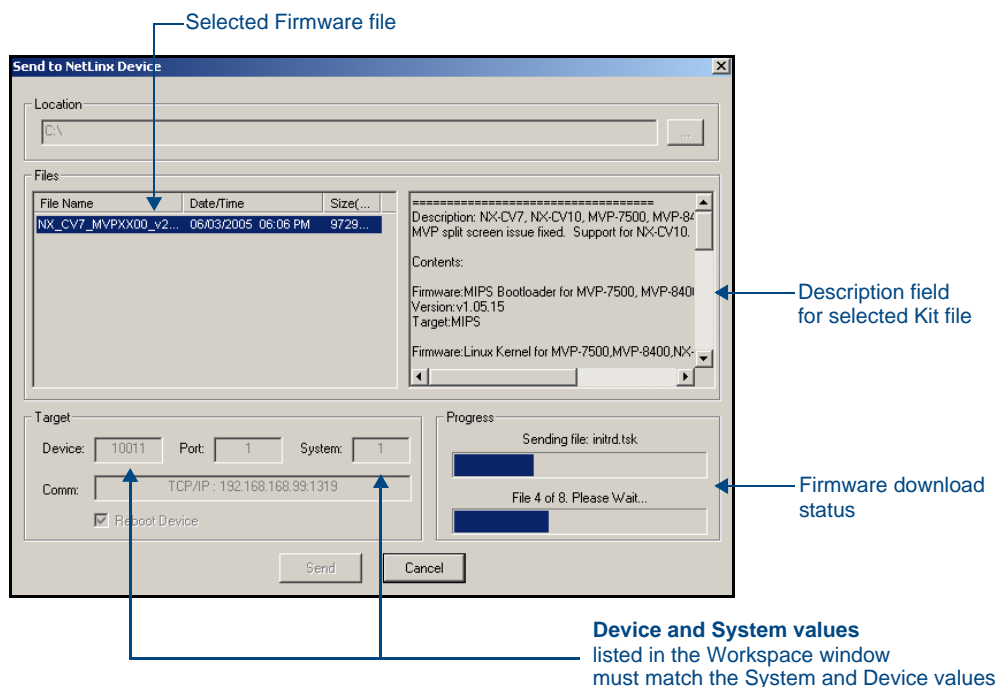

FIG. 51 Send to NetLinx Device dialog (showing Modero firmware update via IP)
- From within Studio, select **Tools > Firmware Transfers > Send to NetLinx Device** from the Main menu to open the Send to NetLinx Device dialog (FIG. 51). Verify the panel's System and Device number values match those values listed within the System folder in the **OnLine Tree** tab of the Workspace window.
Select the panel's Kit file from the **Files** section (FIG. 51).
- Click **Send** to begin the transfer. The file transfer progress is indicated on the bottom-right of the dialog (FIG. 51).